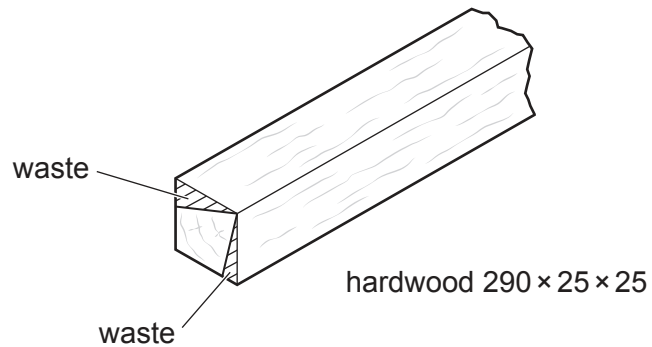

Fig. 11.3
- (b) Fig. 11.3 shows part of the length of hardwood from which the clamp will be made. The shape has been marked out and the waste will be removed by planing.